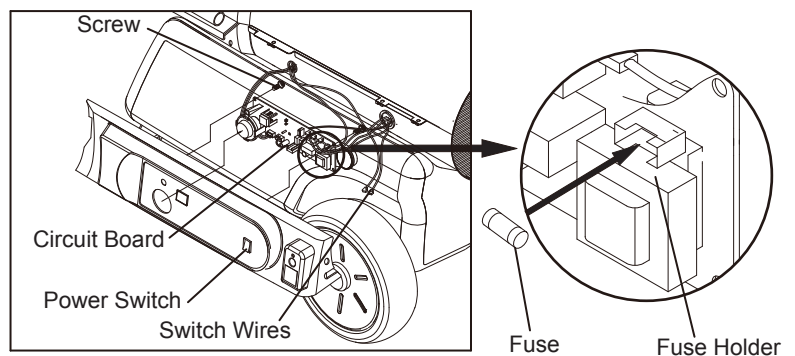

Figure 22. Removing fuse
These screws attach circuit board to side cover (see Figure 22).
6. Remove fuse from fuse holder and replace fuse (see Figure 22).